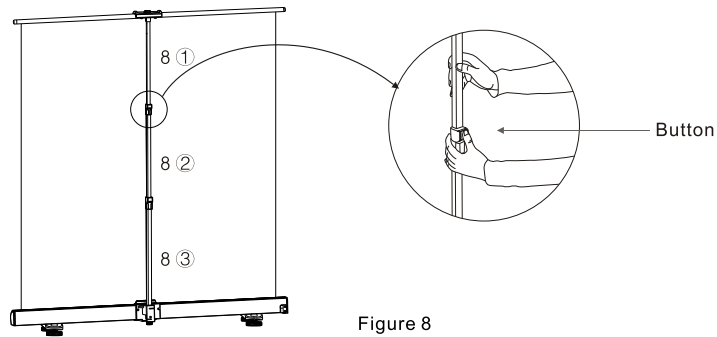

Figure 8
4. Pull up and lock the uphold bar(8) to the desired height . The screen is fully released . The screen height could be adjusted to 6 different levels by adjusting locking position of uphold bar. (Figure 8)